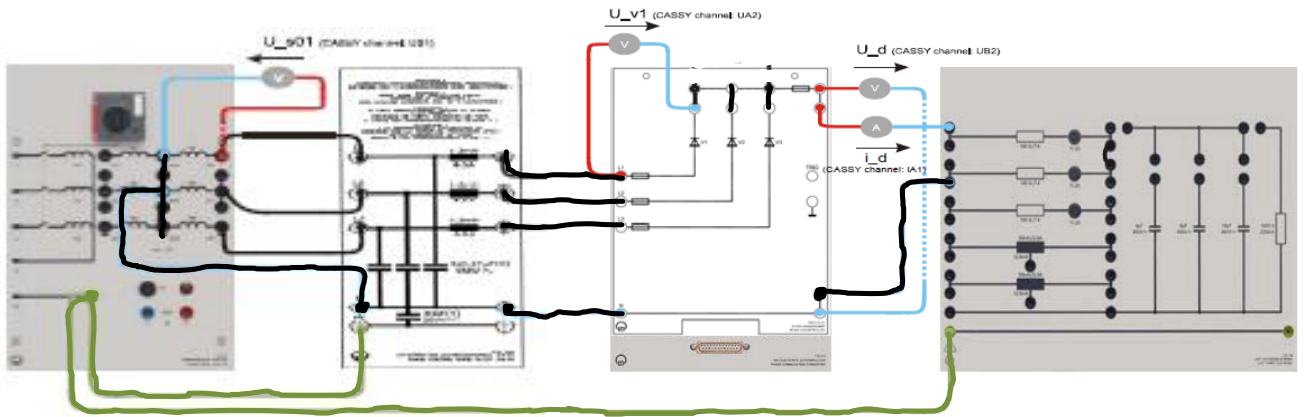

Figure 1.2 Configuration of a Three-Phase Half-Wave Rectifier supplying a resistive load
- Connect the components as shown in Figure 1.2. The load is resistive of 200Ω (2 resistors of 100Ω in series). Ignore the probes connections; instead of the current probe place a short circuit, and instead of the voltage probe an open circuited.